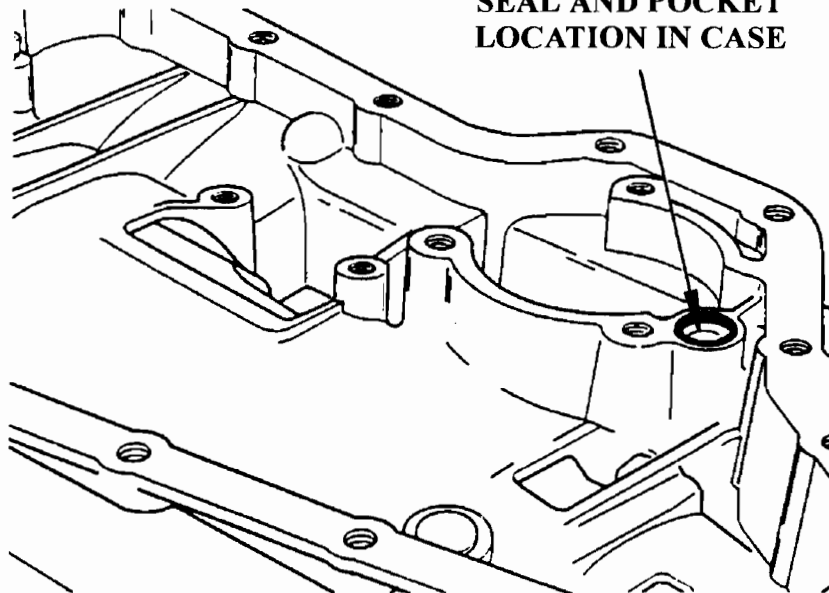

Figure 4
**CHANGE:** Beginning on February 20, 1995, approximately half way through the 1995 model year, all THM 4T60-E transaxles were built using a new design 2-1 servo square cut seal, which also required a deeper seal pocket in the transaxle case (See Figure 4). Since this was implemented as a running change about half of the 95 models will require the previous seal and the other half will require the new design seal.
- (1) 2-1 SERVO "SQUARE CUT" SEAL - New design square cut seal was made twice as tall as the previous design seal. The new design square cut seal measures .132" tall, and the previous design measures .066" tall, as shown in Figure 4. The wall thickness and seal diameter did not change. This seal retains drive oil in the forward servo circuit to apply the forward band.
- (2) TRANSAXLE CASE - The seal pocket in the case was machined deeper to accommodate the new design square cut seal. The new design seal pocket measures .112" deep, and the previous design seal pocket measures .054" deep, as shown in Figure 4.